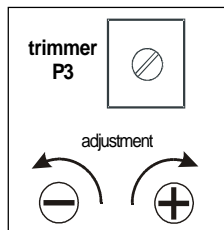
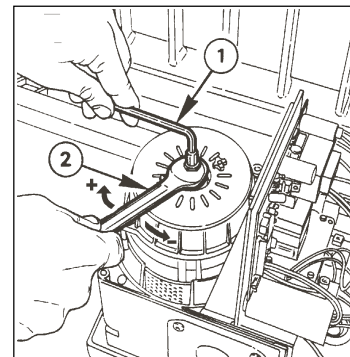

fig. 1
fig. 2
**a** - Set the mechanical clutch (Fig. 2) to the maximum and adjust the electronic torque regulation (Fig. 1) - (recommended).
**b** - Set to the maximum the electronic torque regulation (Fig. 1) and adjust the mechanical clutch (Fig. 2).